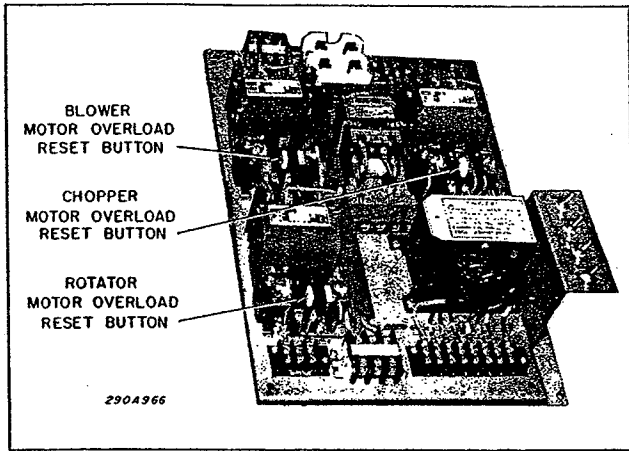

Figure 5-8. Overload Reset Button Location.
D. Manual Resetting of Overload Relays. (See Figure 5-8)